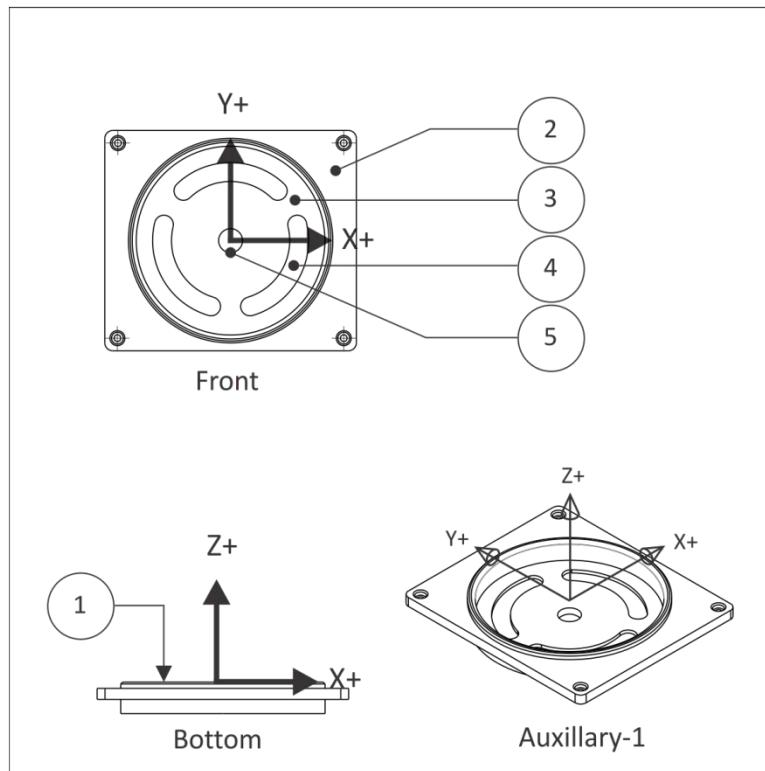
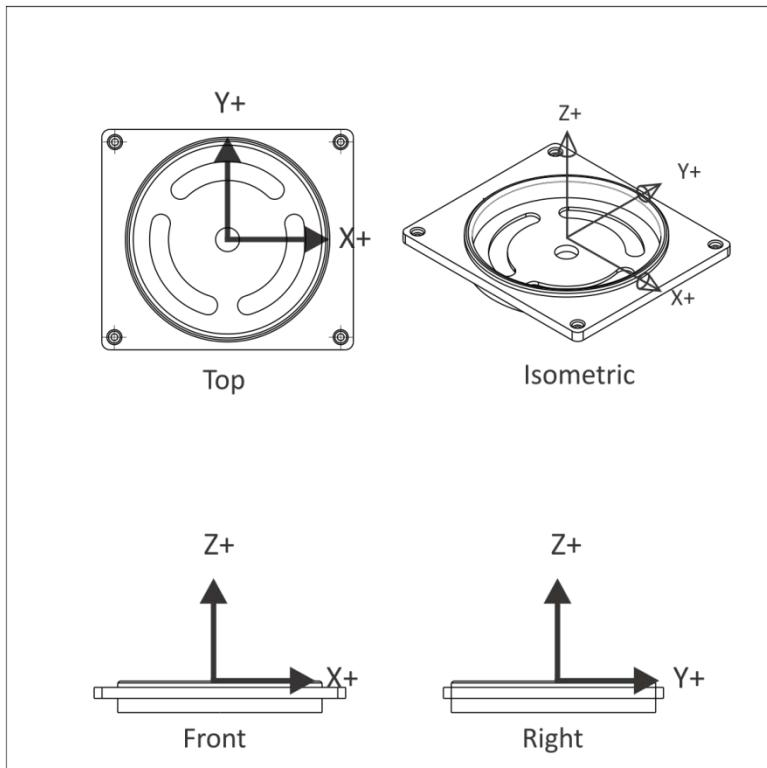

Figure 1: Prismatic Part (Orientation in CAD)
Figure 2: Prismatic (Orientation in CAM)
Figure 1 shows a prismatic part. All machined features lie parallel to the XY plane. Each Z-level can be machined by positioning the tool at a fixed Z-level and then moving the XY axes to remove material. Every feature can be reached with the tool approaching either from the Front or Bottom views. There are several cutting planes in this example, including the model top (1), top of the face where the holes start (2), the bottom of the pocket (3) where the slots begin, the bottom of the slots (4), and the bottom of the hole through the center (5).
Figure 1 shows the part oriented as it is modeled in the mechanical CAD software. For CAM, it is helpful to display the part in the same orientation as viewed while sitting on the CNC machine. For a Vertical Machining Center (VMC) this requires updating standard views to look like those shown in Figure 2. The G-code file is generated in relation to the Work Coordinate System (WCS), so changing views is not required for CNC programming. It simply helps visualize CNC machining processes when using CAM.
In SolidWorks to switch views from CAD space (Figure 1) to CAM space (Figure 2) to the following:
1. Open the **View Orientation** dialog and select **Front** (view) so the part displays as shown in Figure 1.